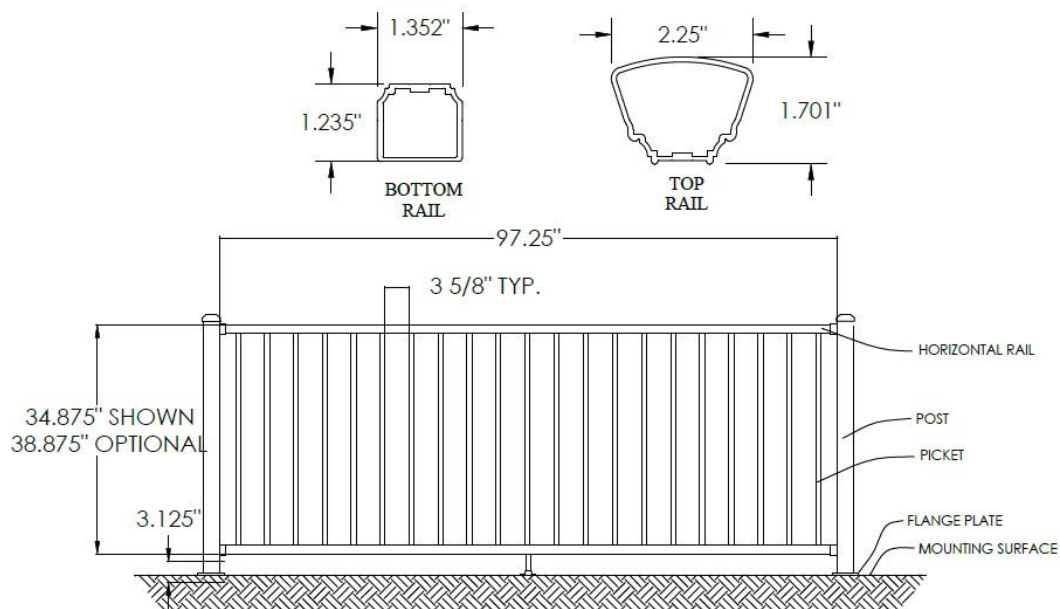

Figure 10 – DekPro Prestige Aluminum Two Rail System
3.5.5. The *DekPro Prestige* top un-routed rail is composed of a 6005-T5 Franklin gripping profile. The bottom rail utilizes a one piece rail profile. See Figures 10 & 11.